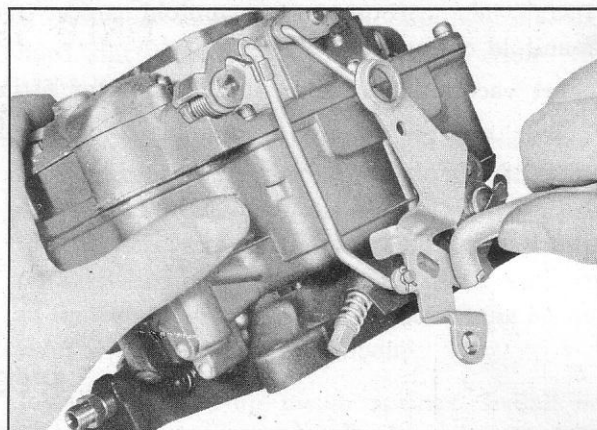

Fig. 117—Setting Fast Idle Adjusting Tang
5. Holding choke valve tightly closed, bend fast idle adjusting tang until there is .015" on synchromesh models and .018" on automatic models (Tool J-657) opening between throttle valve and bore of carburetor side opposite idle port (fig. 117).